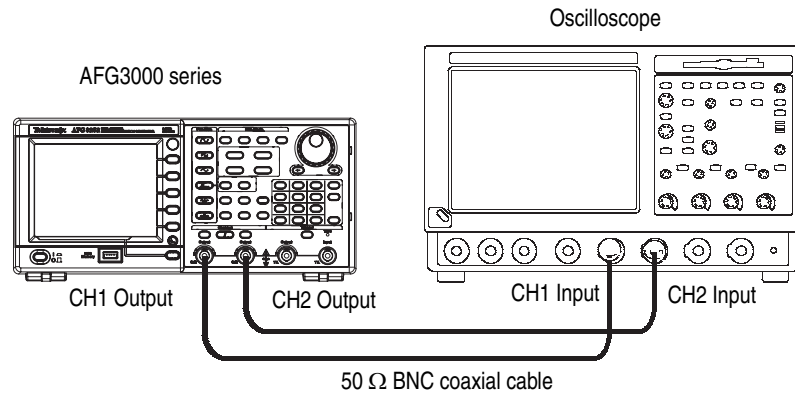

Figure 5-5: Trigger delay adjustment
1. Connect the arbitrary/function generator to the oscilloscope as shown in Figure 5-5.